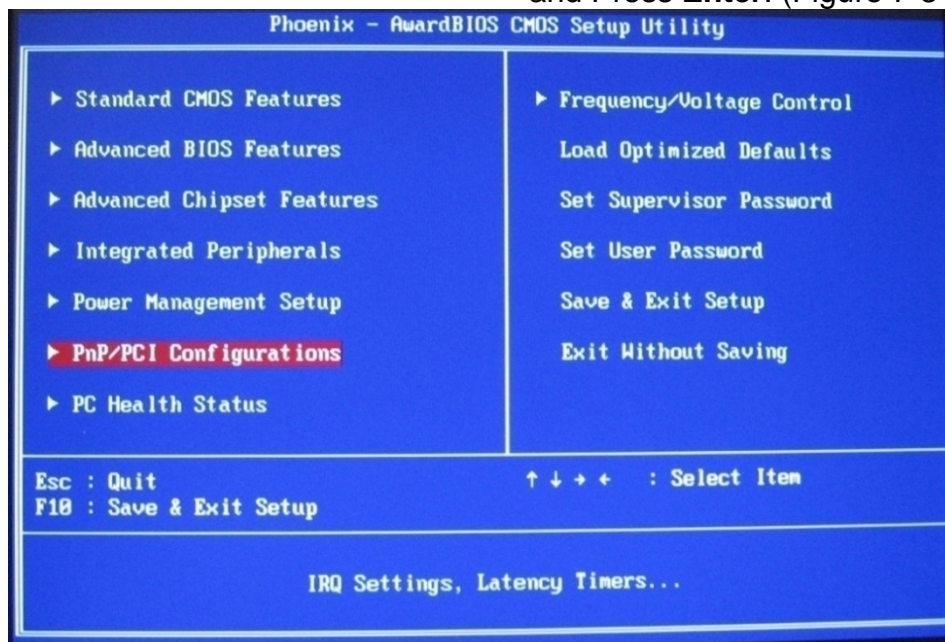

Figure 7-34 PnP/PCI Configuration
24. Scroll down to **PnP/PCI Configuration** and Press **Enter**. (Figure 7-34).